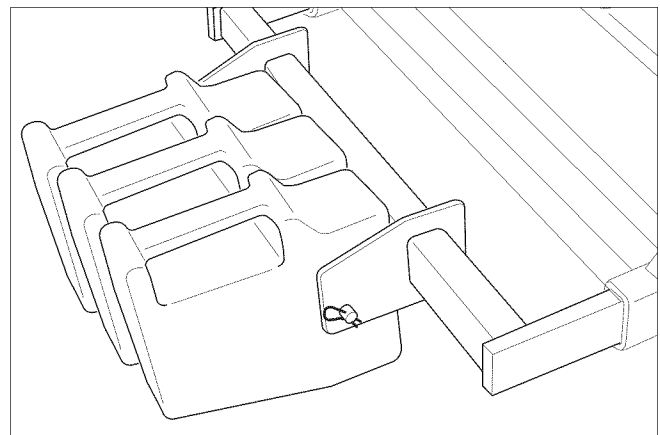

Figure 50. Weight & Retainer Rod Installation
6. Install the counter weights supplied with the grass collector on the weight mount rack (see Figure 50).
7. Install the weight retainer rod through the weight mount rack and secure with the hairpin clips (see Figure 50).